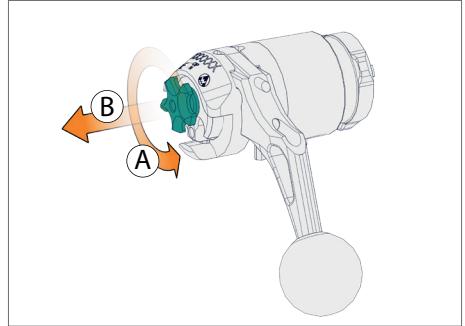

Fig. 10
- Unscrew and remove the star-shaped screw (steps A and B; see Fig. 10).